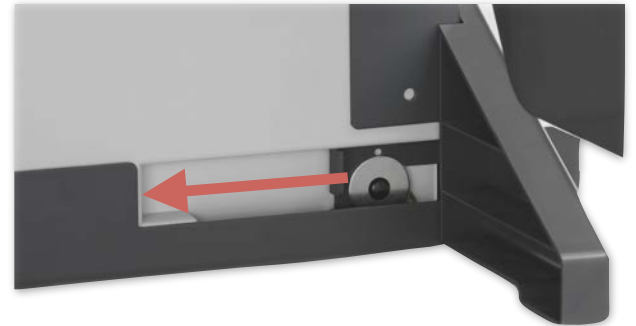

fig 1.1 Front View of the MiX Module
2. From the front of the cart, reach under the dividers and slide the Locking Tabs (see fig 1.1) from **both** sides away from the cart's interior side wall. This releases the MiX Module from the cart.